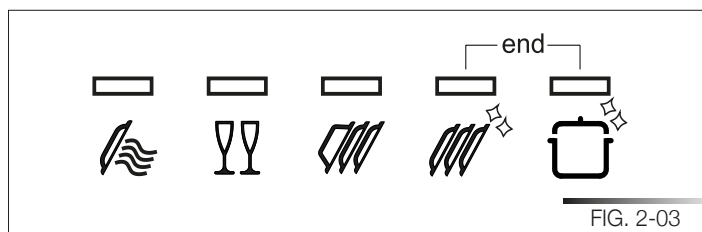

FIG. 2-03
- To cancel the current program, open the door and press and hold down the **program selection** button (ref. 3 fig. 2-02) for a few seconds until the indicator lights of the fourth and fifth programs turn on (ref. pr. 4, pr. 5 fig. 2-03).
- After about 1 minute, the dishwasher terminates the cycle and the indicator lights of the fourth and fifth programs (ref. pr. 4, pr. 5 fig. 2-03) start flashing.